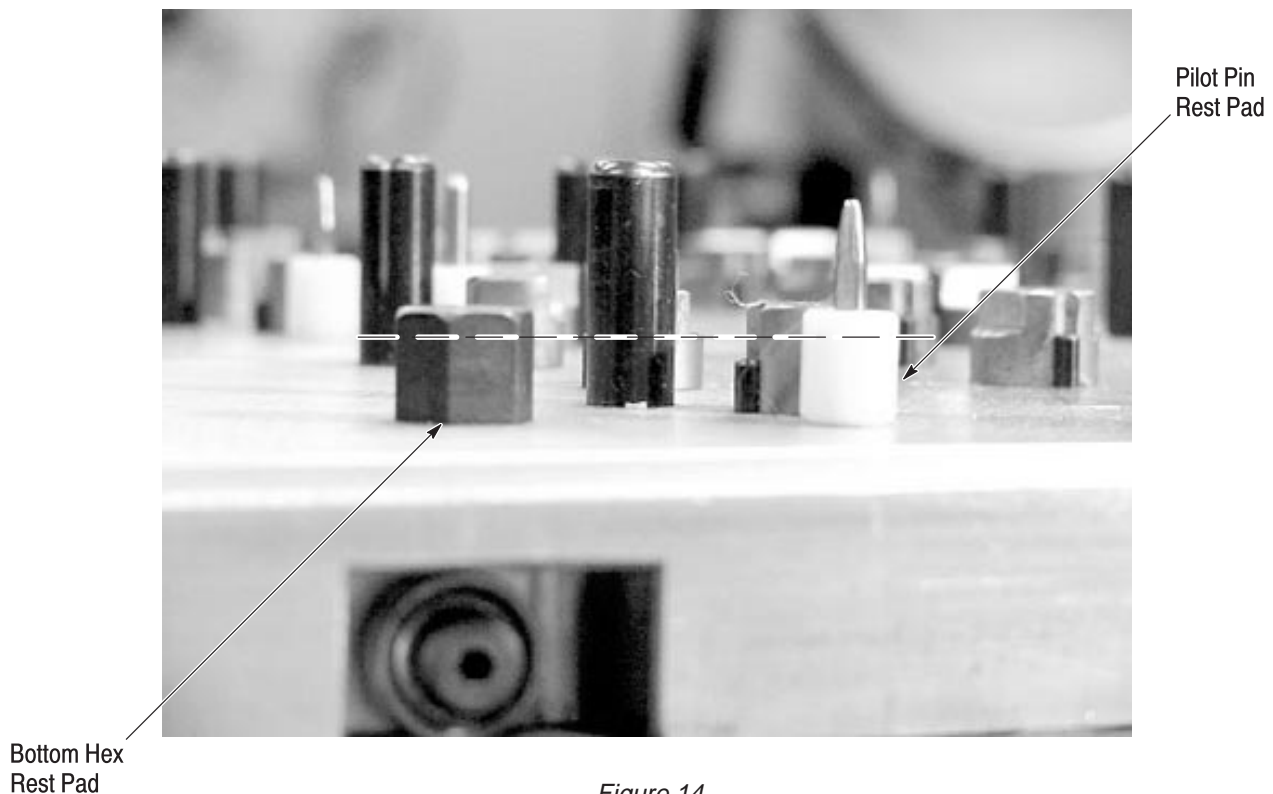

Figure 14
2. The bottom hex rest pads, and pilot pin rest pads must also be replaced and ground to the bushing height. See Figure 14.